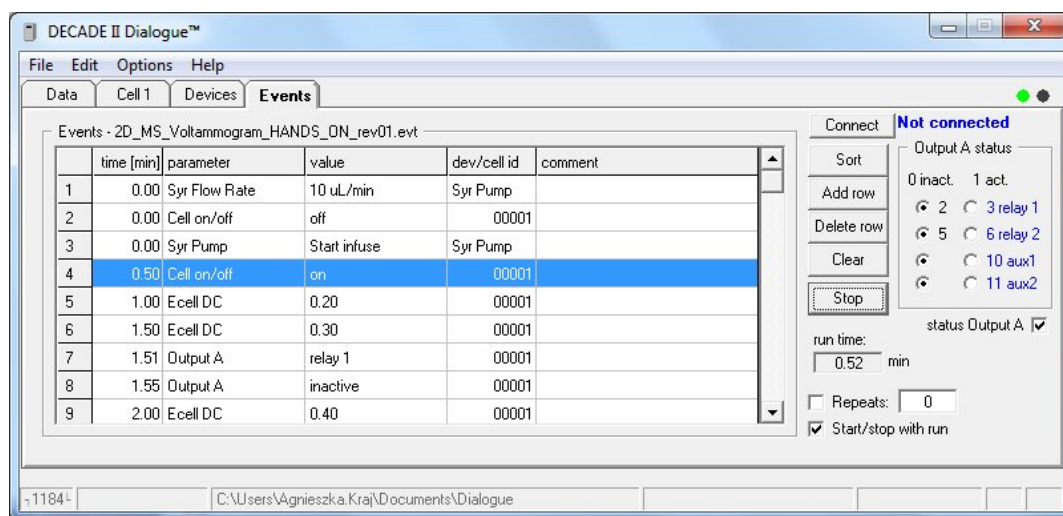

Fig. 2. Events table. The currently executed line is highlighted in blue.
2. The program will open in *Events* tab (Fig. 2).